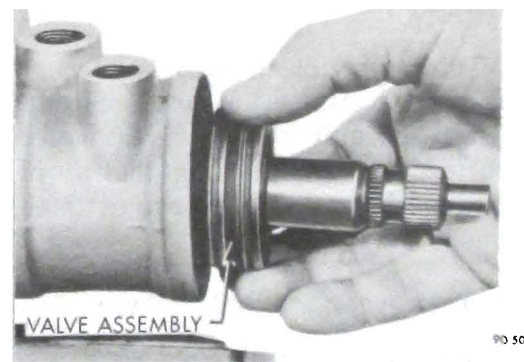
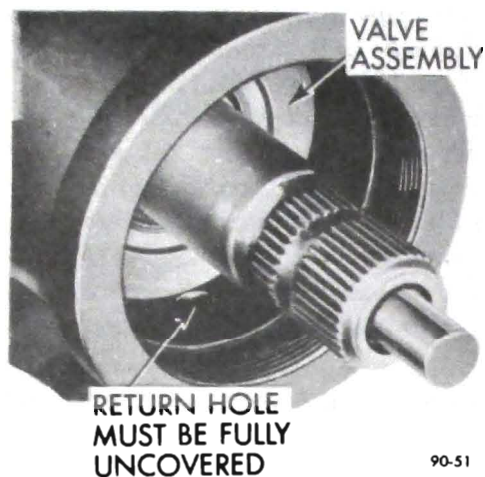

Figure 90-61 Inserting Valve Assembly in Housing
Figure 90-62 Valve Assembly Installed in Housing
1. Align the narrow pin slot on the valve body with the valve body drive pin on the worm. Insert the valve assembly into the gear housing by pressing against the valve body with the finger tips. Do not press on stub shaft or torsion bar. See Figure 90-61. The return hole in the gear housing should be fully visible when valve is assembled properly. See Figure 90-62.
2. Insert the valve assembly and worm in gear housing as an integral unit. Do not press on stub shaft or torsion bar. See Figure 90-61. Return hole in housing should be fully visible when valve and worm are properly installed. See Figure 90-62.